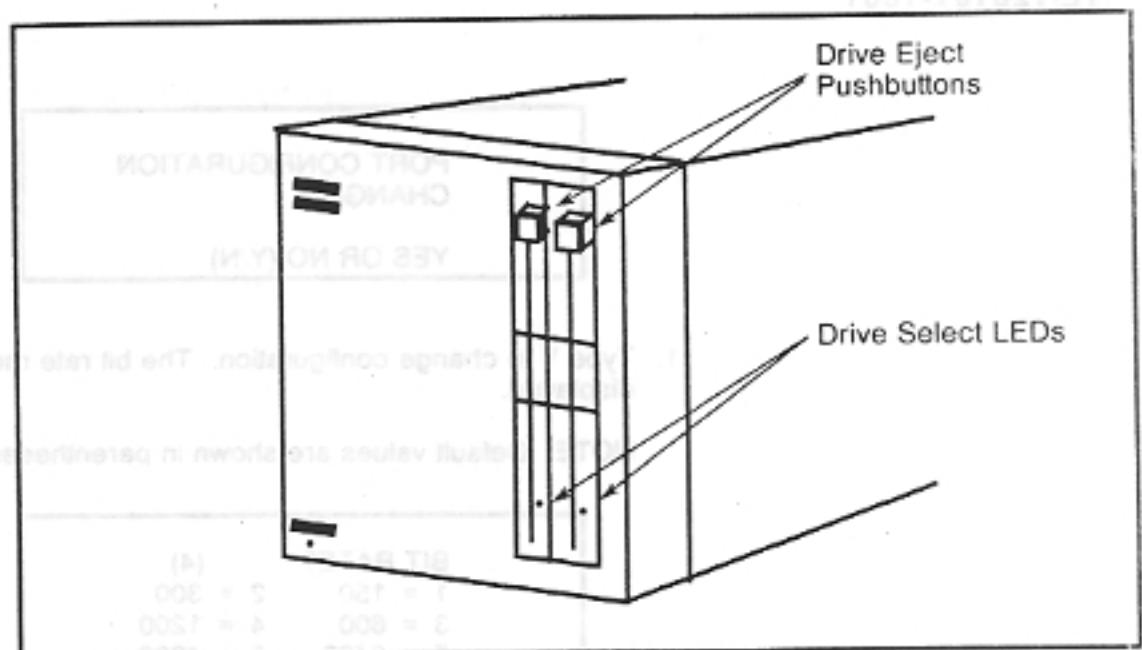

Figure 7.8 Floppy Diskette Ejection
2. Press the drive eject pushbutton in so that it pops out to the off position (Figure 7.8). The floppy diskette will be ejected 2 to 3 cm.